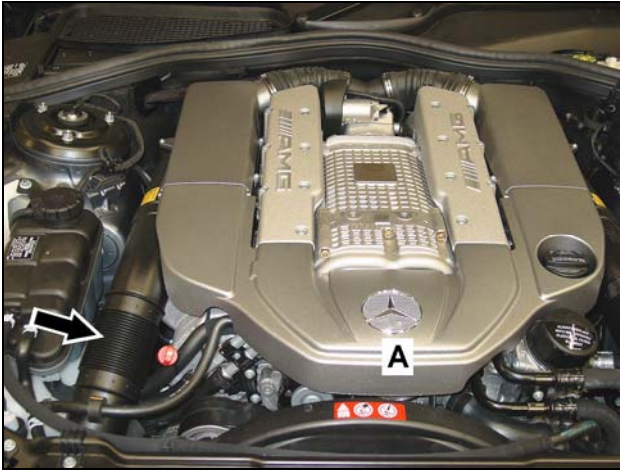

Figure 7 (Shown on model S55 AMG)
- Remove right air intake duct (arrow, Figure 7).
- Remove front section of upper engine cover (A, Figure 7).